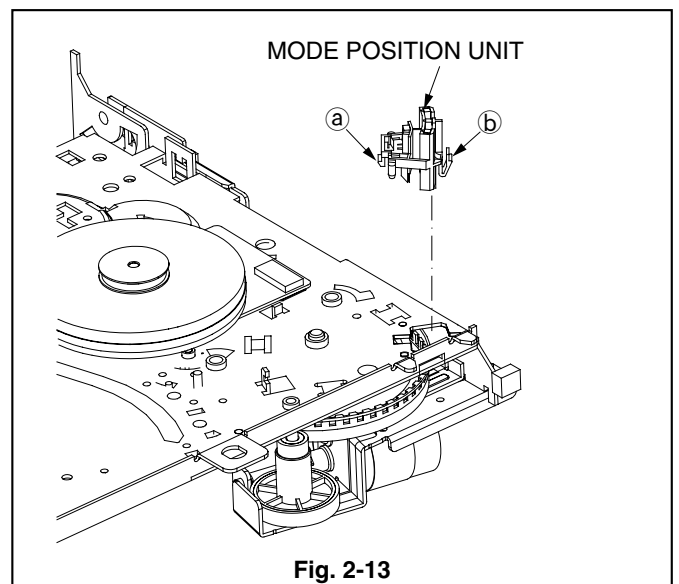

Fig. 2-13
1. Release the two catches (a, b) of the MODE POSITION UNIT shown in the Fig. 2-13 to remove the MODE POSITION UNIT.
1. Install the catch (b) of the MODE POSITION UNIT shown in the Fig. 2-13.
2. Install the catch (a) of the MODE POSITION UNIT shown in the Fig. 2-13.